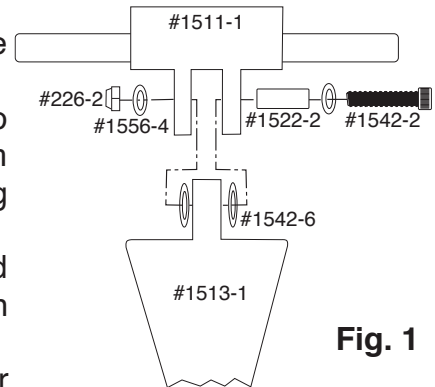

Fig. 1
1. Using 3/16" hex key wrench and 11mm (7/16") wrench, remove socket cap screw #1542-2, washers #1556-4, thrust washers #1542-6, nylok nut #226-2, and bushing #1522-2 from main body #1511-1. The above parts are found in main body fitting for caliper arm. See Fig. 1.